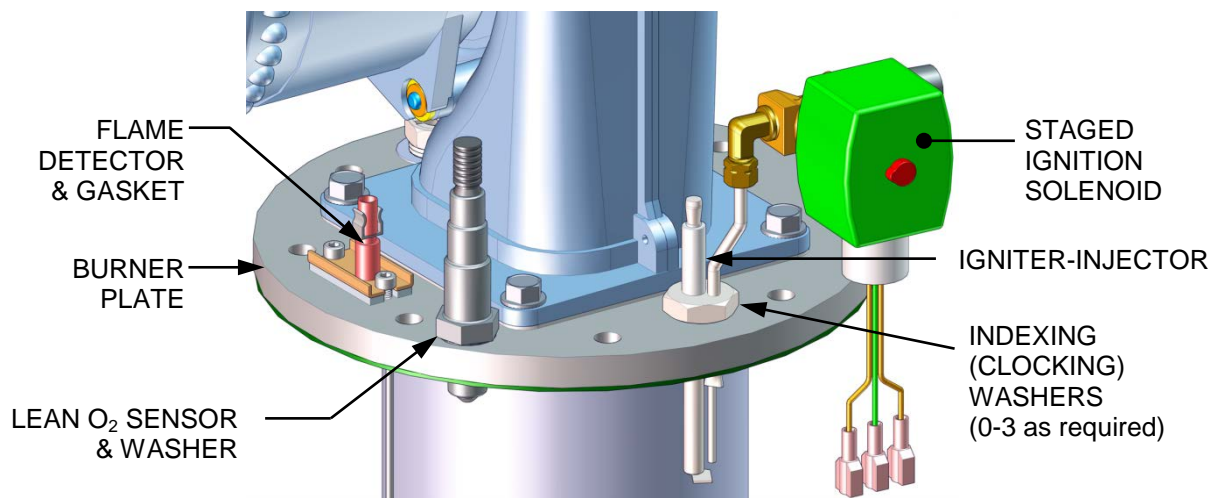
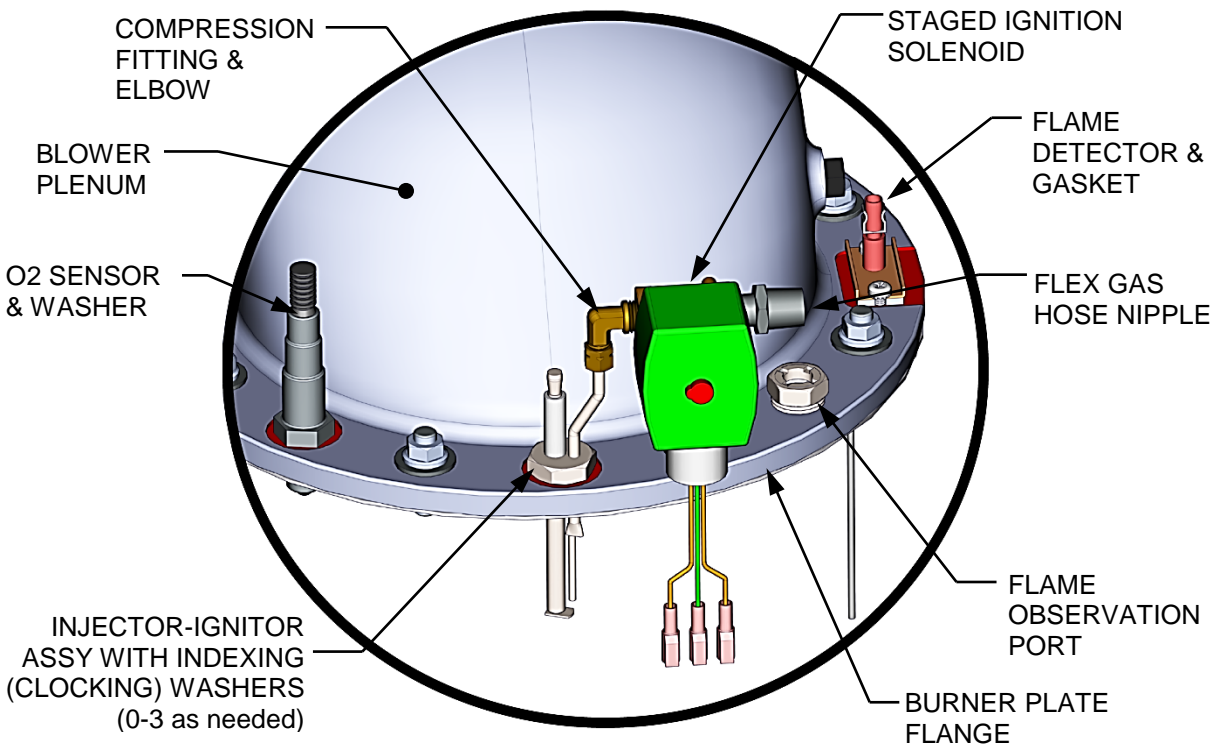

Figure 4-2a: BMK 750/1000 Igniter-Injector & Flame Detector Mounting Details
Figure 4-2c: BMK 2500/3000 Igniter-Injector & Flame Detector Mounting Details
4. Referring to Figure 4-2a – Figure 4-2c, below, use a 7/16" open-end wrench to disconnect the compression nut securing the gas injector tube of the igniter-injector to the elbow of the staged ignition assembly. Disconnect the staged ignition assembly from the igniter-injector.
2. Remove the top shroud from the unit by grasping the top handle and lifting straight up. This will disengage the shroud from the four (4) pins in the side panels.
4. Remove the two (2) screws securing the flame detector to the plate (Figure 4-2a – 4-2c).